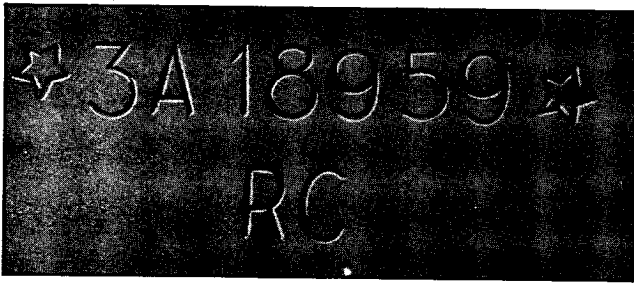
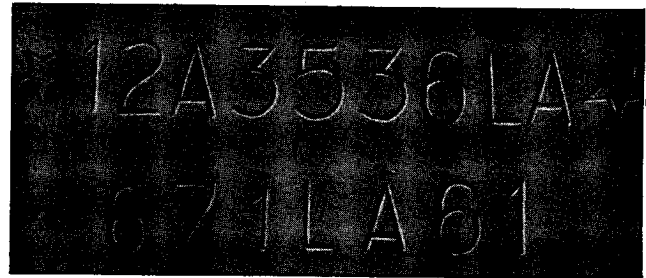

Fig. 20—Typical Unit Number and Model As Stamped on Cylinder Block of Single Engine Units.
Fig. 21—Typical Unit and Model Number As Stamped on Cylinder Blocks of Multiple Engine Units
The unit number, and model, are stamped on every single engined unit at the upper right hand corner of the cylinder block, blower side (Fig. 20). On multiple engine units, a model number is stamped below the unit number (Fig. 21).
On single engines the suffix (RC) as shown in Fig. 20, designates the rotation and accessory arrangement of that particular engine.